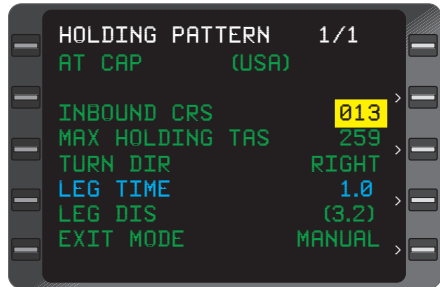

Figure 3-106
NOTE: If WPT is a duplicate WPT the country code will be displayed in this field in parenthesis (in green) (Figure 3-106)
3. **HOLD** Key - DEPRESS to display **HOLDING PATTERN** Page with cursor over the **INBOUND CRS** field. (Figure 3-106)